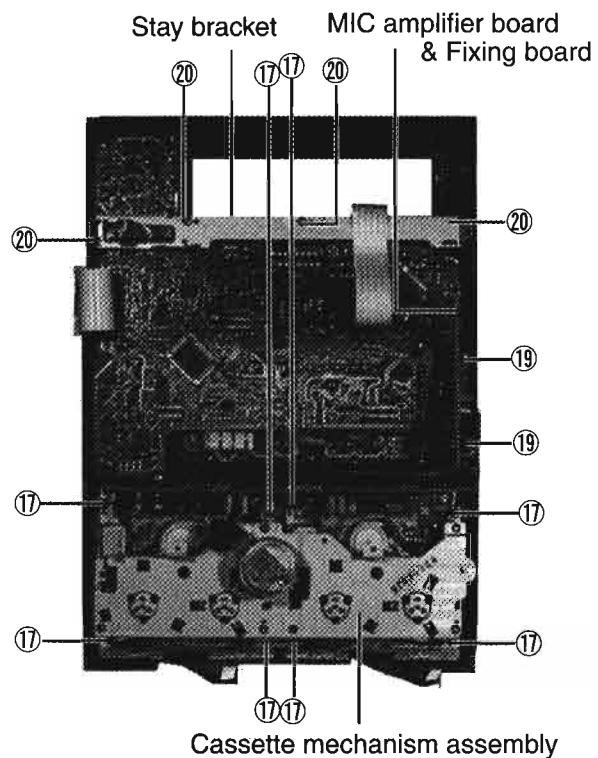

Fig. 15
(See Figs 15, 16)**
5. Remove the eight screws ⑯ fastening the cassette mechanism assembly from the inside of the front panel assembly. (See Fig.15)
6. Remove the two screws ⑲ fastening the fixing board, take out the MIC amplifier board. (See Fig.15)
6. Remove the four screws ⑳ fastening the stay bracket from the inside of the front panel assembly. (See Fig.15)